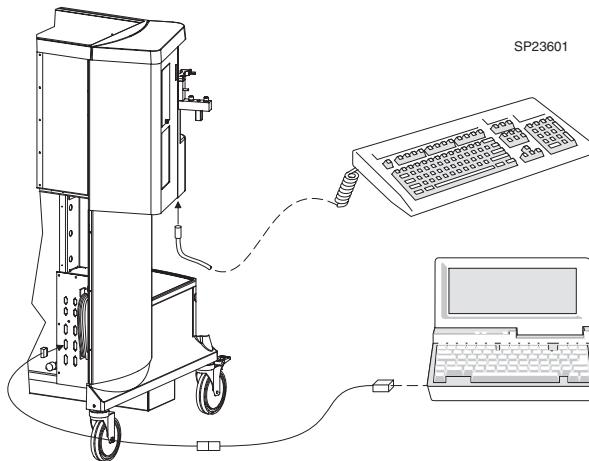

FIGURE 1. Keyboard Connections
- 1.1 With the NM6000 System Power switch at STANDBY, connect a keyboard P/N 4115133 to the DIN connector on the underside of the NM6000 cockpit area. See FIGURE 1.